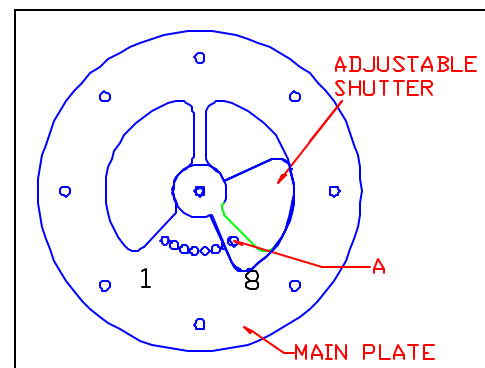

Figure 11 : Restriction Plate Adjustments
The restriction plate is used to control the draft of the heater. Controlling the draft also changes the aesthetics of the flame. The restriction plate has eight settings, one (1) being the lowest and eight (8) being the highest. For a fast moving flame with lots of action, use a low setting. For a slow, lazy flame, a high setting should be used. See Figure 11 for instructions on how to adjust the restriction plate settings.
(refer to Figure 11 for proper adjustment plate index location) 'A' in Figure 11 shows the locating screw that determines the position of the plate.